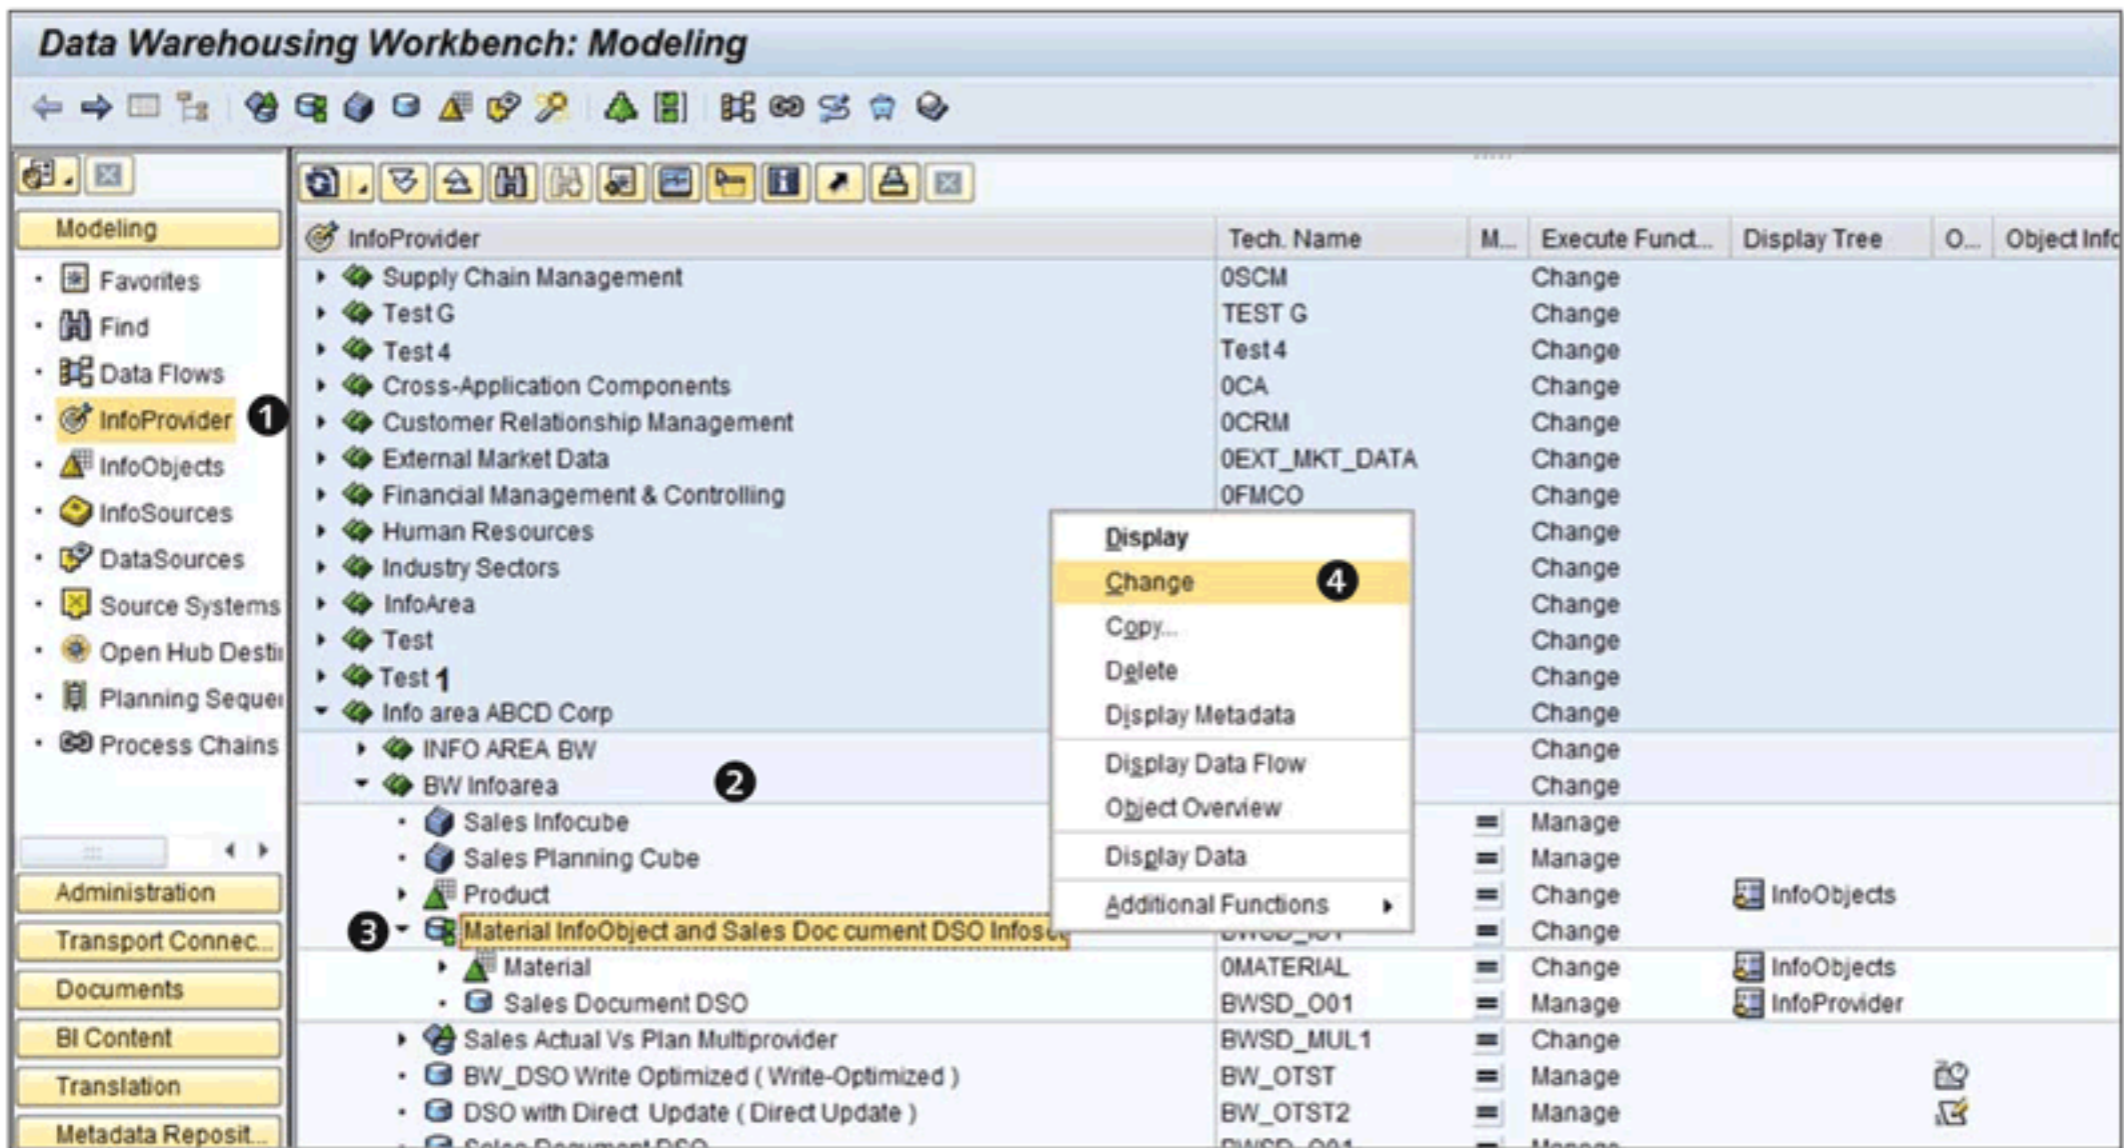
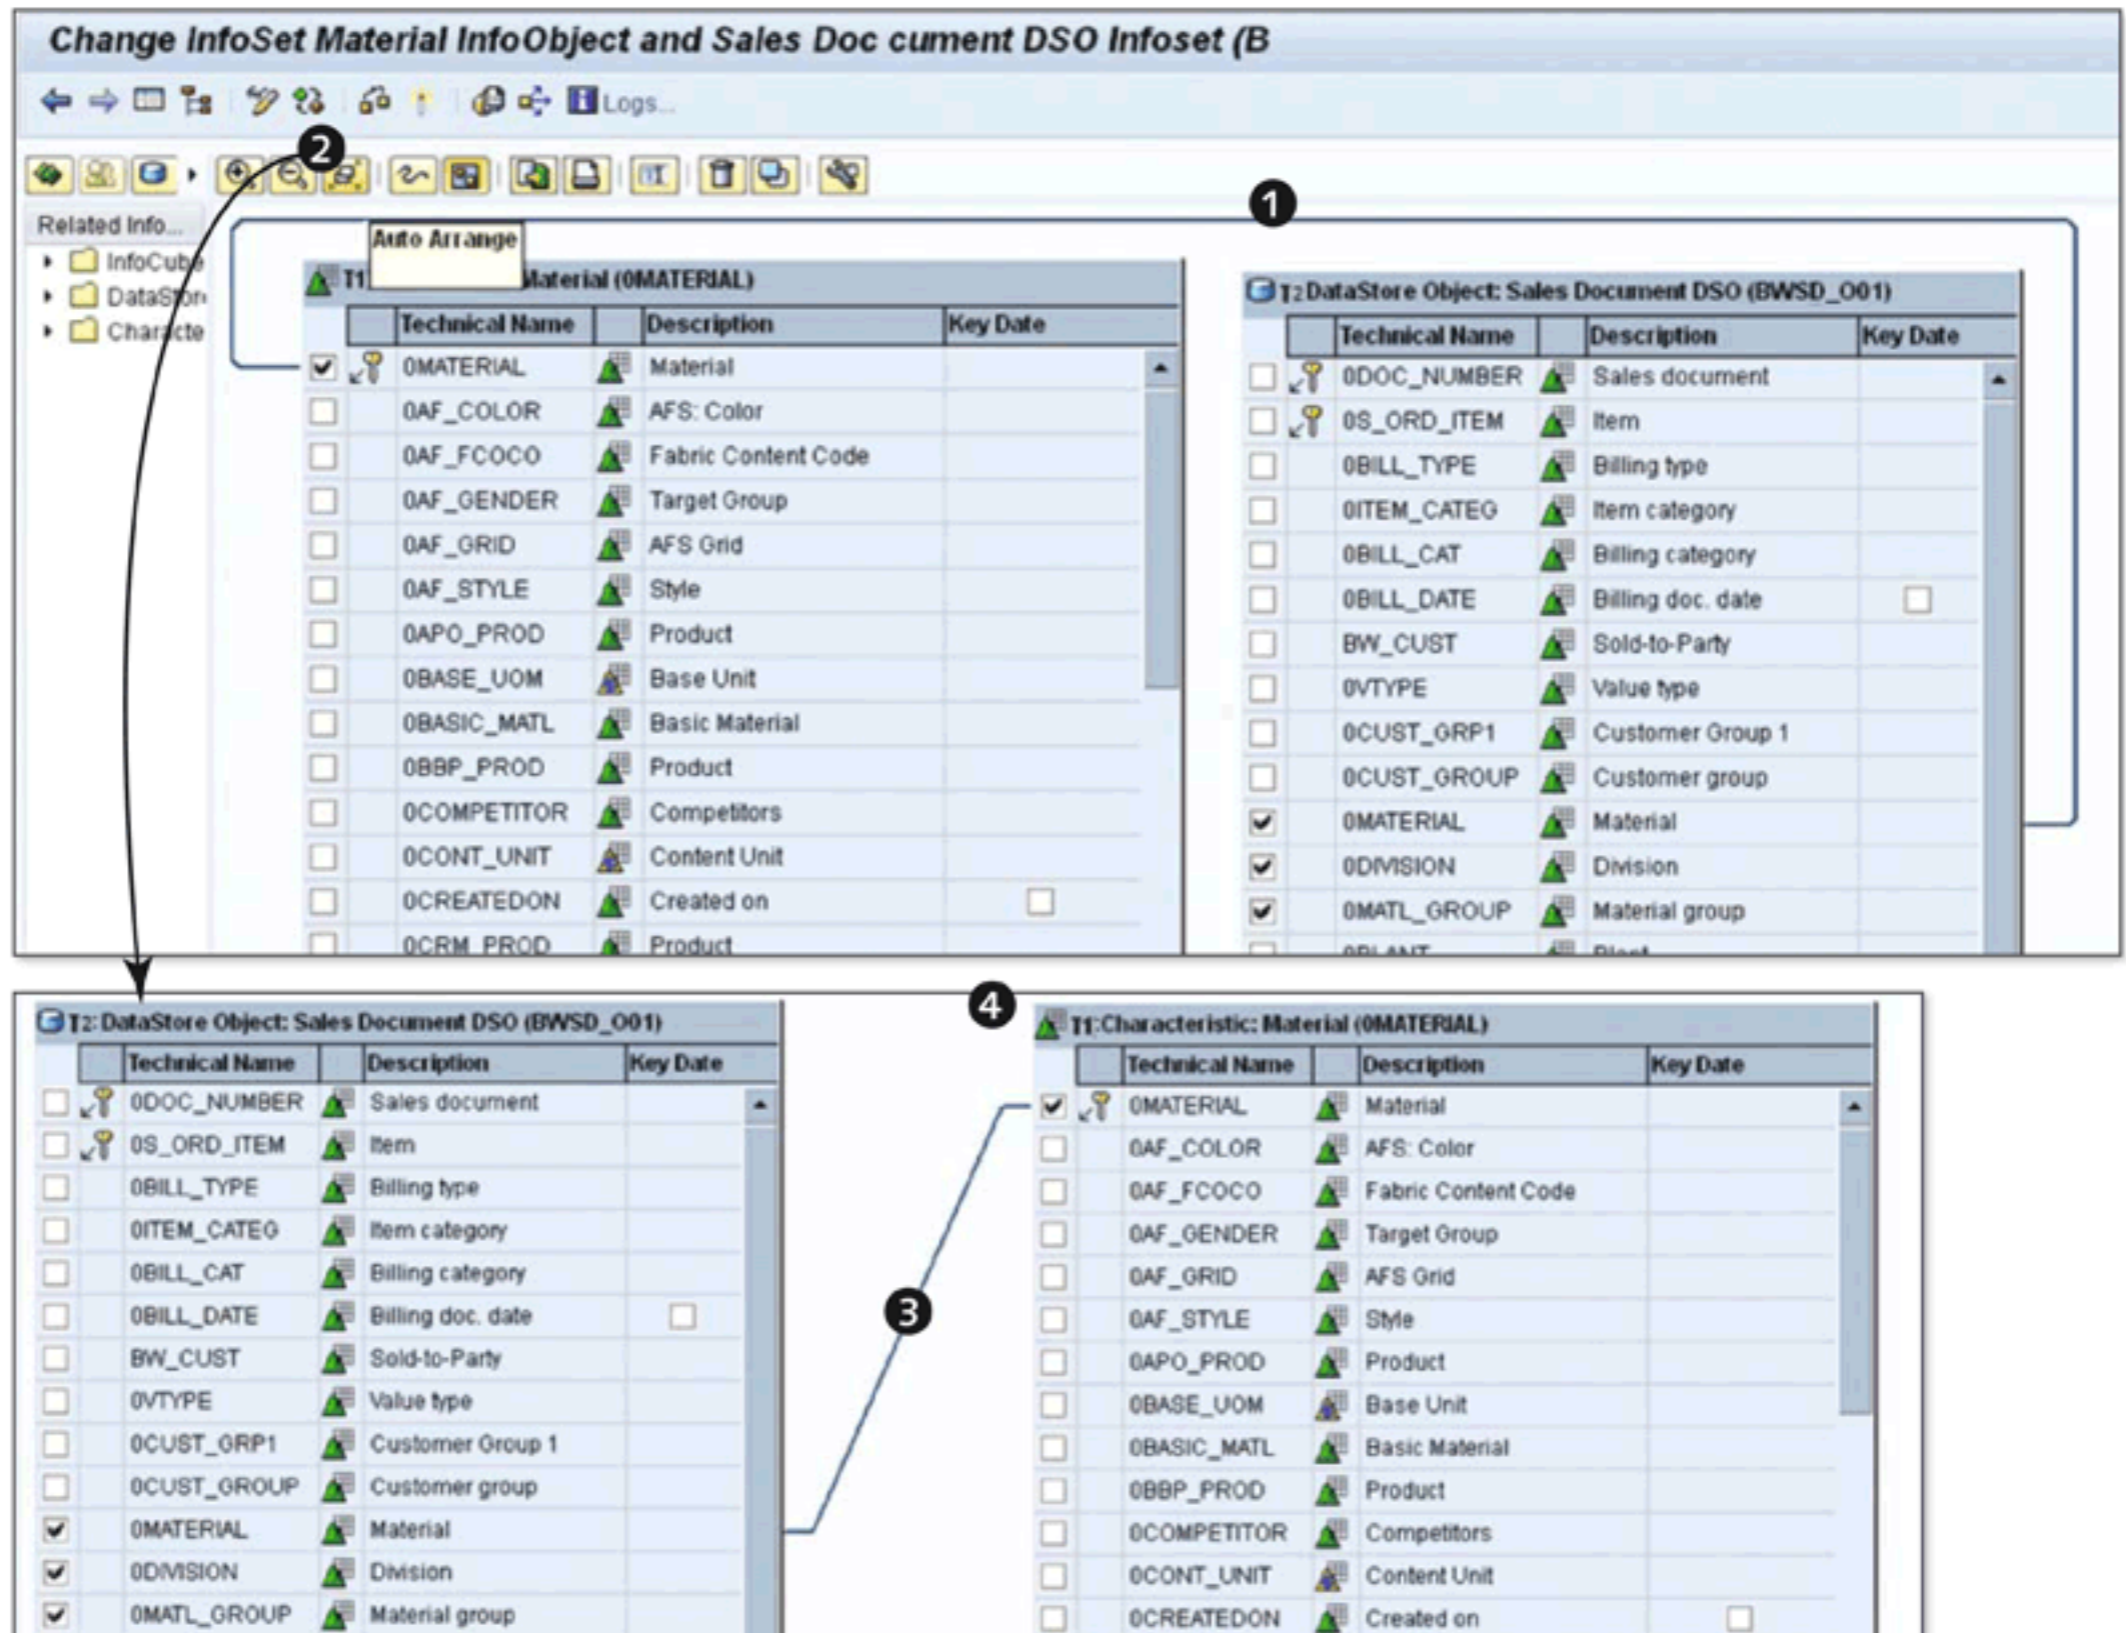

Figure 6.31 Editing the InfoSet
Figure 6.32 InfoSet Editing: Auto Arrange Facility
Start the InfoSet definition in change mode. In the DWW (Transaction RSA1), under MODELING in the navigation section, select the InfoProvider, as shown in ❶ of Figure 6.31. Select InfoArea BW_AREA (❷). Using the context menu of InfoSet BWSO_IS1 (❸), select the CHANGE option (❹). The CHANGE INFOSET screen appears (Figure 6.32).
As you can see in ❶ of Figure 6.32, the join between two source objects isn't properly visible. Click on the AUTO ARRANGE icon () (❷). The resulting screen is shown in the lower part of Figure 6.32, where you can view the join properly (❸). In the process, you may also observe that before executing AUTO ARRANGE, source object T1 on the left side of the screen has moved to the right, and source object T2 has moved to the left of the screen. This movement doesn't affect the functionality of the InfoSet.